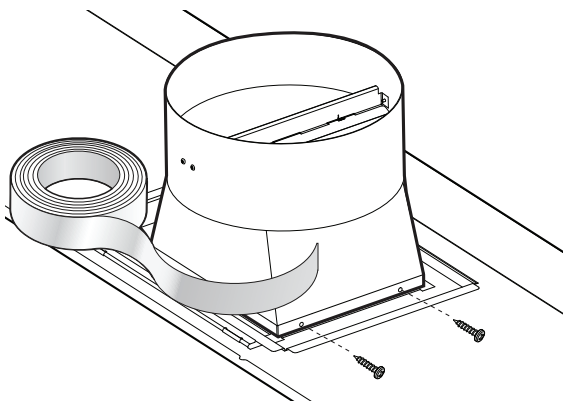

Figure 4: Transition Connection
2. Align mounting holes at base of transition over the mounting holes of the 1/2" (13 mm) flange located at the top of the hood (see Figure 4).
3. Fasten transition to hood using four (4) 1/4" (6 mm) sheet metal screws included with hood (see Figure 4).
4. Seal connection between transition and hood with aluminum tape (Figure 4). **DO NOT** use duct tape. Ensure that the connection is completely sealed.